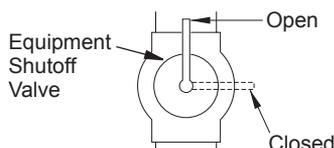

Figure 27 - Equipment Shutoff Valve
1. Close equipment shutoff valve (see Figure 27).
1. Open equipment shutoff valve (see Figure 27, page 19).